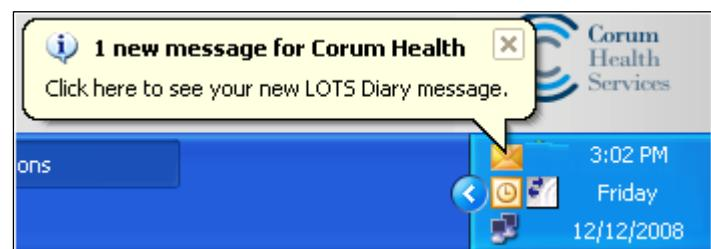

Figure 240
1. If you have new diary messages an yellow envelope icon will appear in your system tray (see Figure 240).